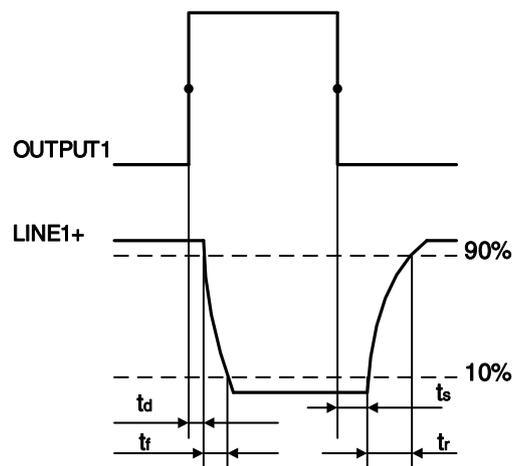

Figure 7-14 Parameter of opto-isolated output circuit
- Rising time delay =  $t_r+t_d$ :  $<50\mu s$  ( $0^\circ C\sim 45^\circ C$ ) (parameter description is shown in Figure 7-14)
- Falling time delay =  $t_s+t_f$ :  $<50\mu s$  ( $0^\circ C\sim 45^\circ C$ ) (parameter description is shown in Figure 7-14)